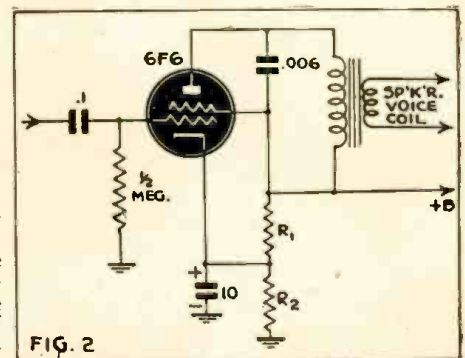
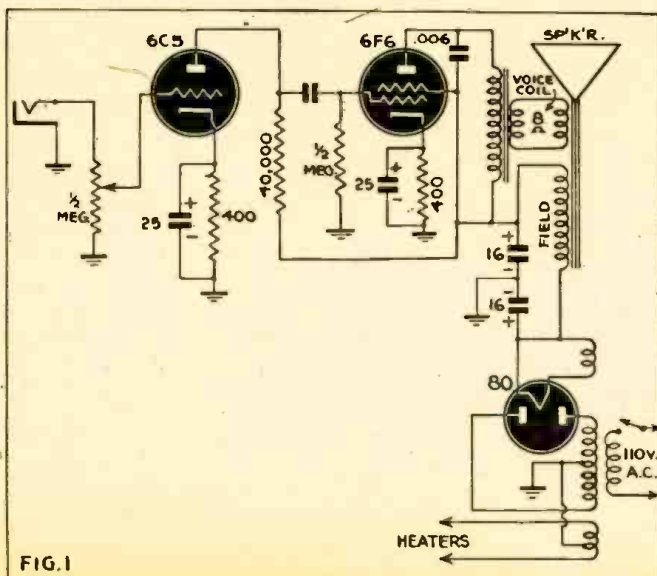
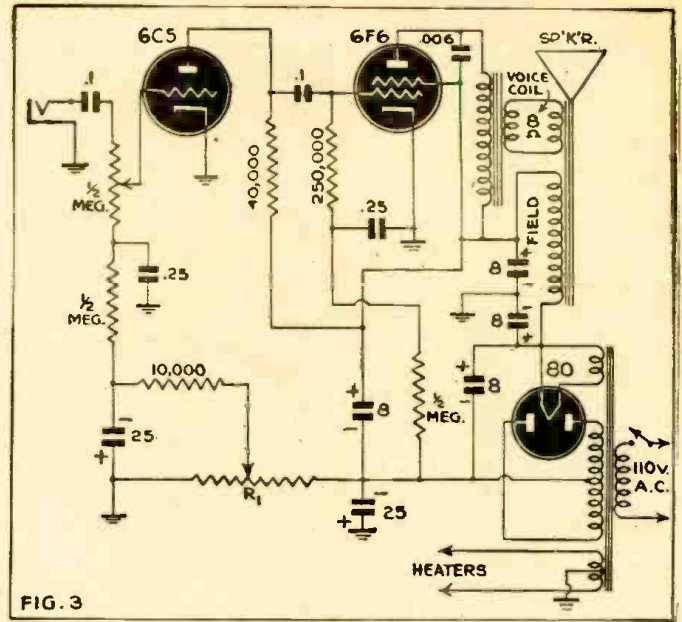
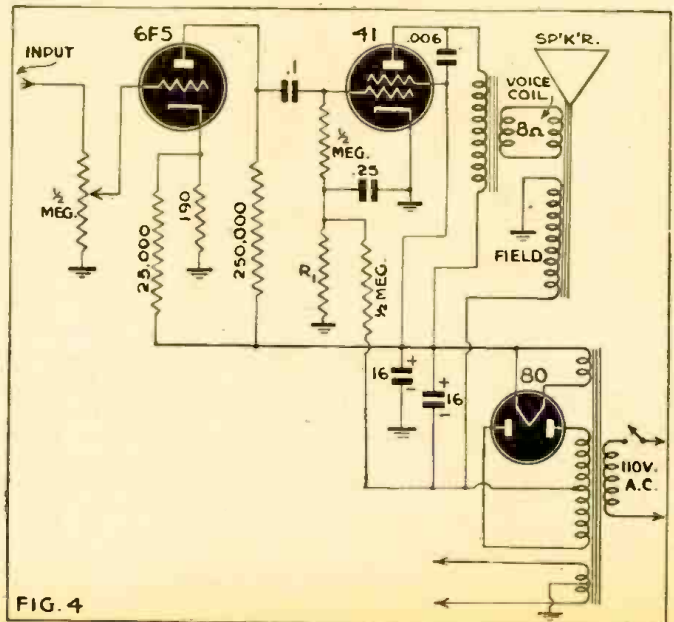

FIG. 2
FIG. 1
FIG. 3
FIG. 4
(2) VOLTAGE fluctuations in our wire may be crudely represented by screwing a thin steel strip (as used to hold large packing boxes together) at the center and setting both ends in vibration (Fig. 3-B). Our steel strip would have to vibrate a million times a second to represent adequately our 1000-kc voltage!
In Fig. 3-B:
alternating R. F. voltage alternates, and since these are the HIGHEST values attained by the voltage ANYWHERE along the whole wire, we see why it was that our neon lamps glowed most brilliantly at the ENDS of our wire (Fig. 3-B).
Again at C, the voltage alternates through all values between "+G and -J volts" which limiting values are still less than the peak values at B. Thus we should expect a neon lamp here to be dimmer still, which was indeed the case (Fig. 2-B).
Fig. 3—Another view of current and voltage distribution. At A are shown the values through which current may pass during a cycle, at any point on the antenna wire. Similar voltage values are shown at B, while at C, the average current and voltage values are shown in single-line graphs.
It's ten to one that you used something like the circuit of Fig. 1 when you decided to build a phono amplifier with this magic tube with which to amaze your friends. This is the typical circuit we all know well.
Our primary aim, then, is to make the bias voltage completely independent of the tube to be biased. This is the primary feature of fixed bias. One way to do this is to connect the cathode of the 6F6 output tube of Fig. 1 to a point on a bleeder across the B+ supply (Fig. 2). One can see that through R2 we have two current components—the cathode current and the bleeder current. The cathode current is subject to the same variations as before but the bleeder current (assuming a decent power supply) is constant.
Second, the ordinary receiving type power tube has no critical grid impedance, and so we may forget about that. All we have to do is to unground the grid return of our 6F6 in the circuit of Fig. 1 (or of any other tube in a similar application—the 6F6 is here used merely as an example) and apply the right bias from the simplest source we find handy—anything that gives 22.5 volts and is stable. Some tubes, like the 6V6, have a fairly low maximum permissible grid resistance. The solution to this problem is merely to use transformer coupling.
One of the most widely used methods of biasing is the type using a resistor in the negative return of the power supply. It is the one found in 90% of the commercial A.C. sets. In this type, a resistor is inserted between the power transformer's high voltage secondary center tap and ground. The entire B+ current must pass through the resistor in such a direction that a voltage, negative with respect to ground, builds up across the resistor. By using the correct resistance value, the correct voltage for biasing the output stage may be obtained. Fig. 3 shows the circuit of Fig. 1 adapted for this biasing system. The value of R1 may be determined as follows by applying Ohm's Law: If I1 represents the total current drawn from the power supply (including current drawn by any bleeders which some circuit other than that of Fig. 4 may use), then, for a 6F6 in class A1 (22.5 volts bias):
coupling resistor-condenser networks, to prevent the hum from reaching the grids of the audio tubes. Extra filtering is also required—note the two pairs of filter condensers in Fig. 4. Low supply voltage and additional difficulty in filtering the output of a half-wave rectifier make the system entirely impractical for A.C.-D.C. sets. It is cheaper to use two tubes in push-pull with cathode bias than to buy the condensers and find the extra chassis space required to bias a single tube by this method.
The commercial A.C. set designers have several tricks that the experimenter might well profit by to help him overcome the disadvantages while retaining all the advantages of this system of fixed bias. Fig. 4 shows the circuit of an audio system closely paralleling that of a G.E. set. The circuit was noted down while the set was in the author's shop for servicing because of the efficient way in which the type 41 operated and the neatness with which most of the undesirable features of the bias supply system just described were overcome. The main feature of the circuit is the substiti-
Using the necessary voltage drop across the speaker field coil to supply negative bias voltage make this a more efficient circuit than that of Fig. 3. Fair power levels may be attained with this hookup.
This tangency tracking error can be minimized by using a pick-up with a stylus head off-set about 30 degrees or so. A medium-sized arm with a tangent off-set head used on a standard-sized recording will result in only about one or two degrees of tracking error. When a longer arm of about 12 or 14 inches is used with such a head, the tracking error is negligible. See Fig. 1 (a) and (b).